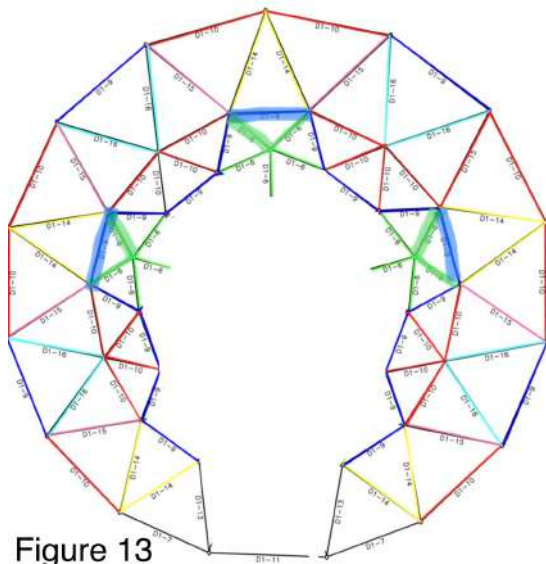

Figure 13
- By the end of these steps, the dome assembly should look like **Figure 13**:
- Take one of the pre-assembled 5-pointed stars (**#6 struts**) and attach the two innermost **#6 struts** (highlighted green, **Figure 13**) to each end of the **#9 struts** on the first layer of the dome (highlighted blue, **Figure 13**). Refer to the Dome Map Installation Diagram to ensure correct placement